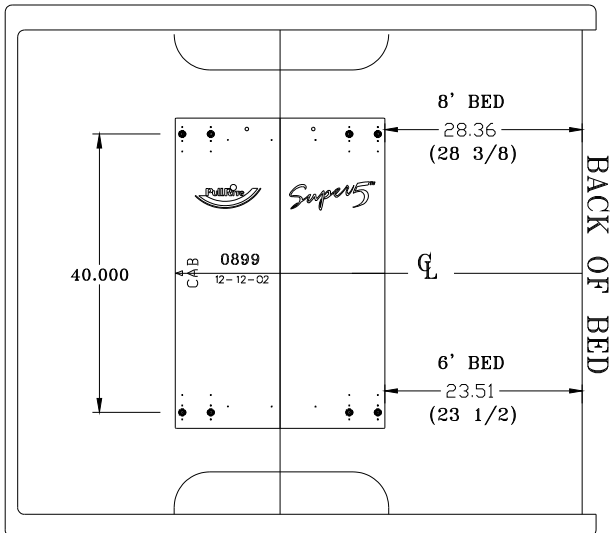

Fig. 2.
3. While standing on the template, use a 1/8" drill bit to mark the bed at each hole location indicated (See figure 2 below).